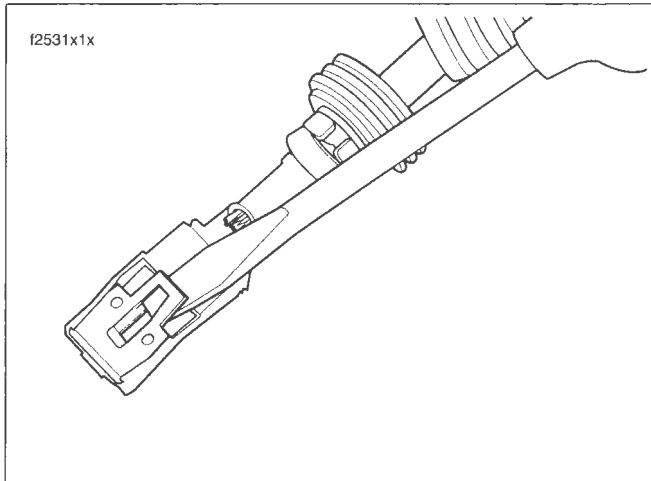

Figure B-32. Bend Tang
1. See Figure B-32. Carefully bend tang outward away from the terminal body.